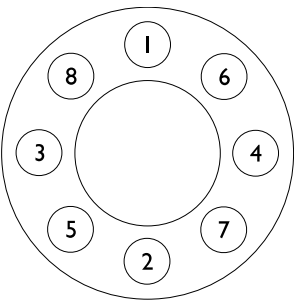

Figure 11
5. Tighten the set screws in the star pattern shown in Figure 11 to 15 in/lbs for a 5000 lb carriage and 15 ft/lbs for a 10,000 lb carriage, or so that they are all hand tight against the washer.